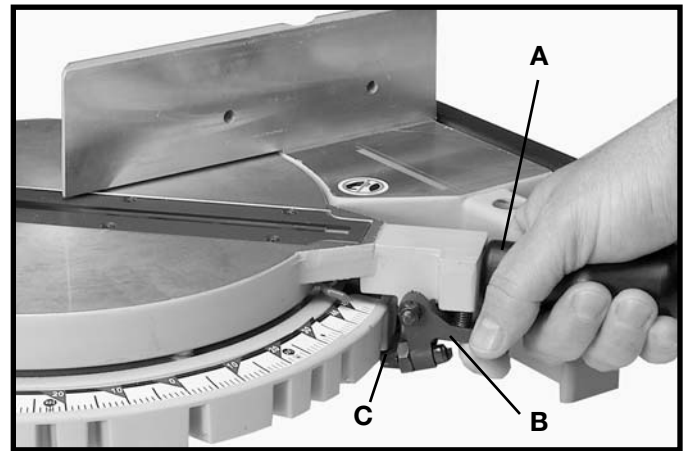

Fig. 5
Loosen table locking handle (A) Fig. 5, one turn and squeeze locking trigger (B). Rotate table until plunger (C) is engaged into the 90° stop (0° on scale). Then tighten handle (A) by turning clockwise.